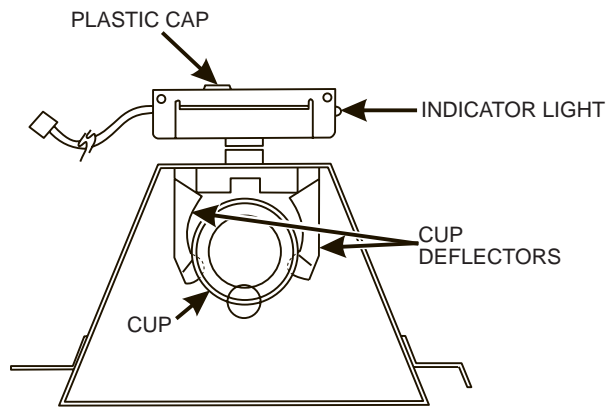

Figure A-2
- b. Place the target in the cup station just beyond the cup deflectors (see figure A-2). The target should be standing vertically; not tilted forward or backward.